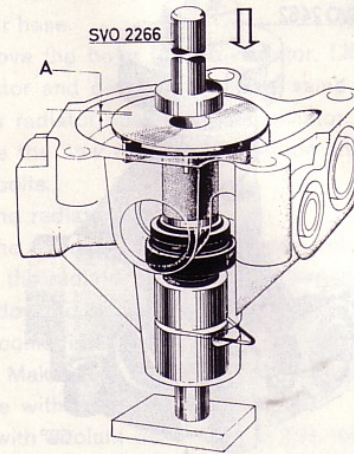

Fig. 116. Fitting the impeller
3. Press on the impeller with the drift SVO 2266 so far that the impeller lies at a level with or 0.4 mm (0.016") just under the surface of the pump housing. The lower end of the shaft should rest against the counterhold, see Fig. 116.